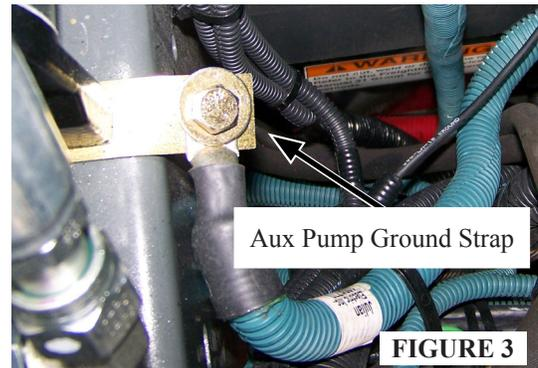

FIGURE 3
3.3 Install items 2 and 3 into the port **FIGURE 3.**